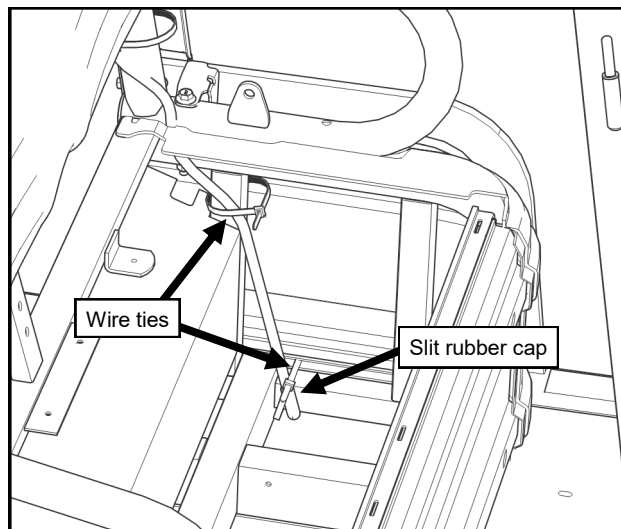

Fig. 6.3 (Drain routing, left side)
- 6.3** Route the left side drain tube along the same path as the right, with the drain tube attached to the vertical frame rail behind the relay box under the seat. See Figure 6.3.